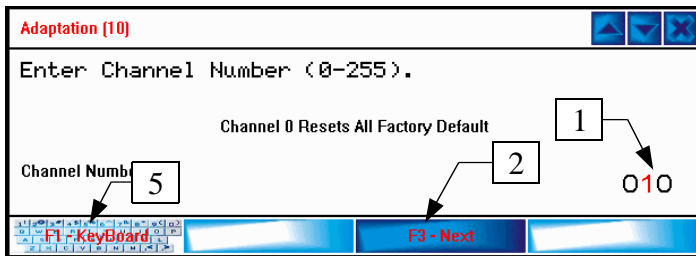
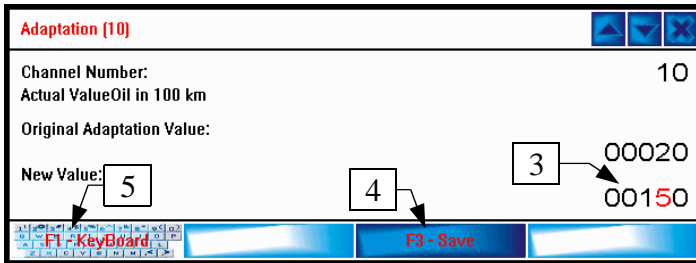

Figure 3.25
Figure 3.26
An example of performing an adaptation on channel 10 is shown on the following figures. In figure 3.25 you can see a window for the channel number input (1). After pressing the Next button (2) a request for current channel value is sent. Then a window with original and new adaptation value (3) is visible as in Figure 3.26.